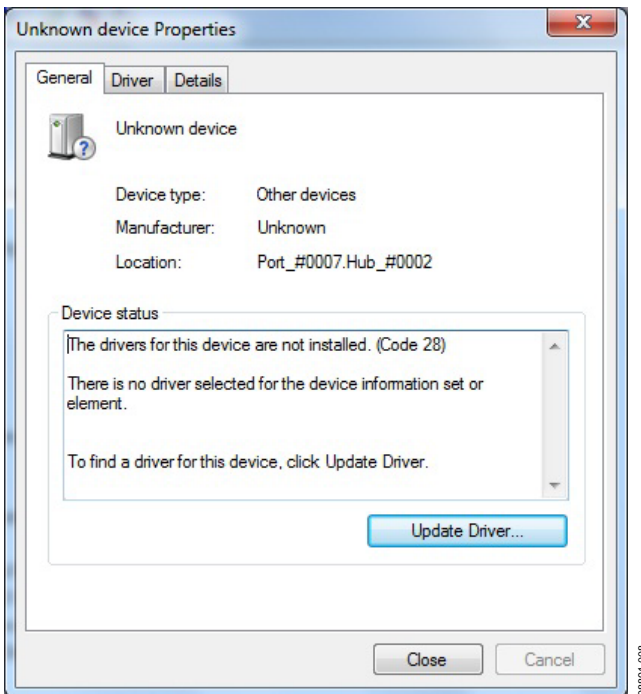

Figure 8. Unknown Device Properties
2. Click **Update Driver** in the properties window (see Figure 8).